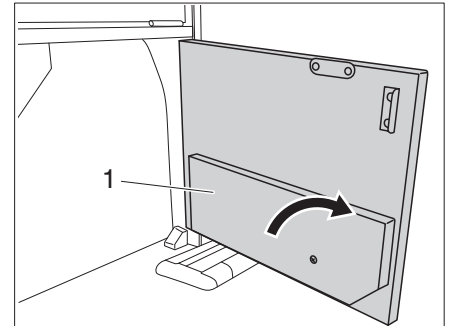

Fig. 29 Power supply access flap
- ▷ The induction hob may only be used if the panel (Fig. 29,1) is in the folded out position.
- Rotate the panel (Fig. 29,1) 90°.